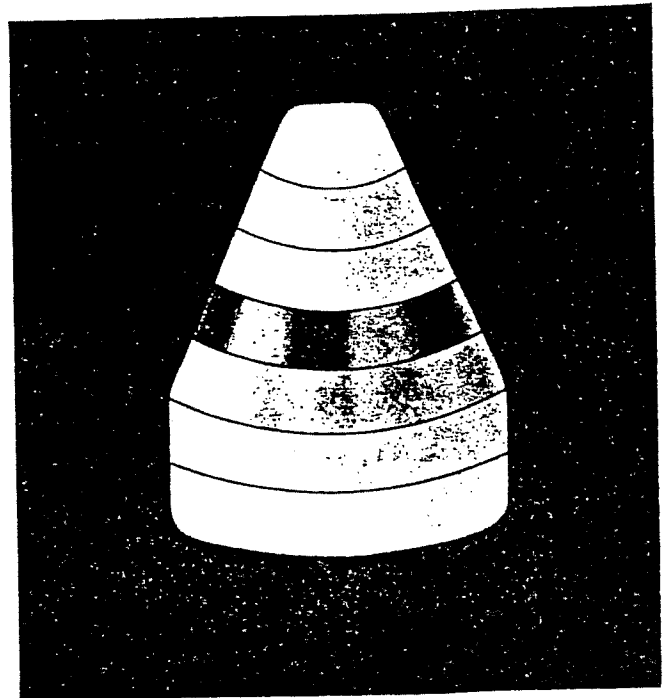

Figure 2—Close-up of a Scanning Window
c. Because the Strobococonn is completely non-selective in its measurement of musical notes, or any other sound within its range, several pattern bands may appear simultaneously if the tone or sound is complex in nature. A pure tone, such as produced by a flute, will cause only one pattern band of black "spokes" to appear for each note sounded. A violin tone, which has many overtones of different frequencies, will cause several pattern bands to appear in various windows. (See *Figure 2.*)